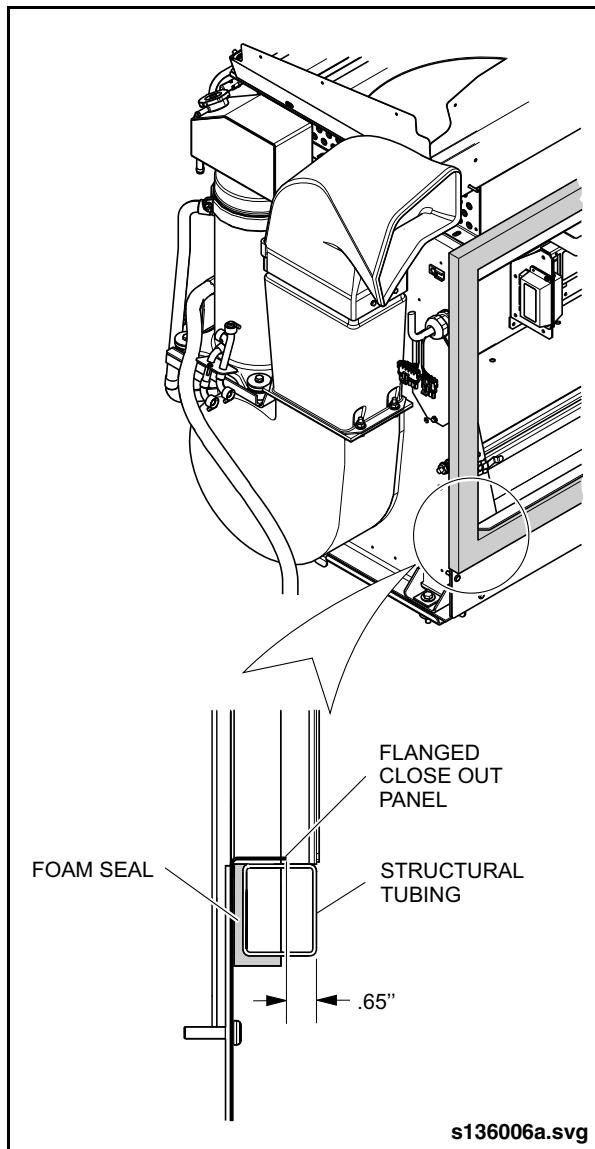

Fig. 10-9: HVAC Unit Installation Measurement
5. Apply forward pressure to the HVAC unit to ensure the return air foam seal is properly compressed. The HVAC unit will be properly positioned when there is a 0.65 in. gap between the flanged edge of the close out panel and the vehicle structure square tubing in the return air opening. See "Fig. 10-9: HVAC Unit Installation Measurement" on page 23.